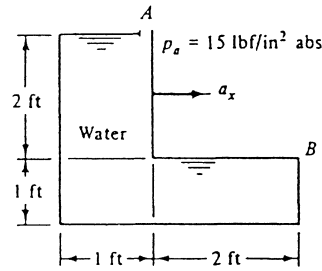

Fig. P2.143
**2.143** The tank of water in Fig. P2.143 is full and open to the atmosphere ( $p_{\text{atm}} = 15 \text{ psi} = 2160 \text{ psf}$ ) at point A, as shown. For what acceleration  $a_x$ , in  $\text{ft/s}^2$ , will the pressure at point B in the figure be (a) atmospheric; and (b) zero absolute (neglecting cavitation)?